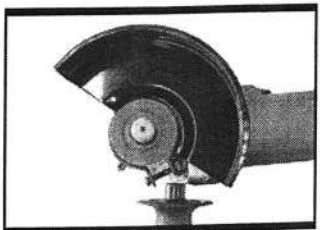

Fig. D1
3 GRINDING/CUTTING DISC (SEE FIG. D1-D3)
Screw on the inner flange (6). (See Fig. D1)